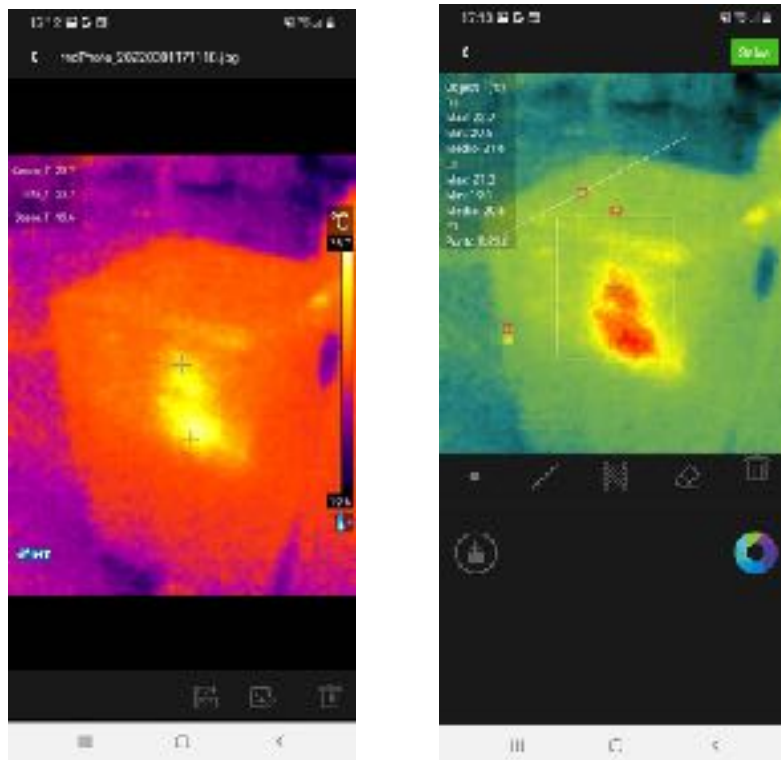

Fig. 11: Edit saved images
1. Enter the Gallery and select the desired image (see § 5.7) as shown in Fig. 11 – left side
3. Tap the  icon to change the color palette (see § 5.6) and the  icon to open the advanced analysis tool (see Fig. 11 – right side)
4. Insert any objects on the image (see § 5.5) and tap the "Save" icon at the top right of the display (see Fig. 11 – right side)
1. Enter the Gallery and select the desired image (see § 5.7) as shown in Fig. 11 – right side